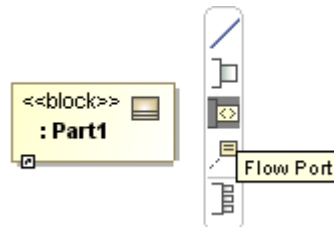

Figure 104 -- Part Smart Manipulator - Flow Port
- in the smart manipulator of the part (Figure 104).